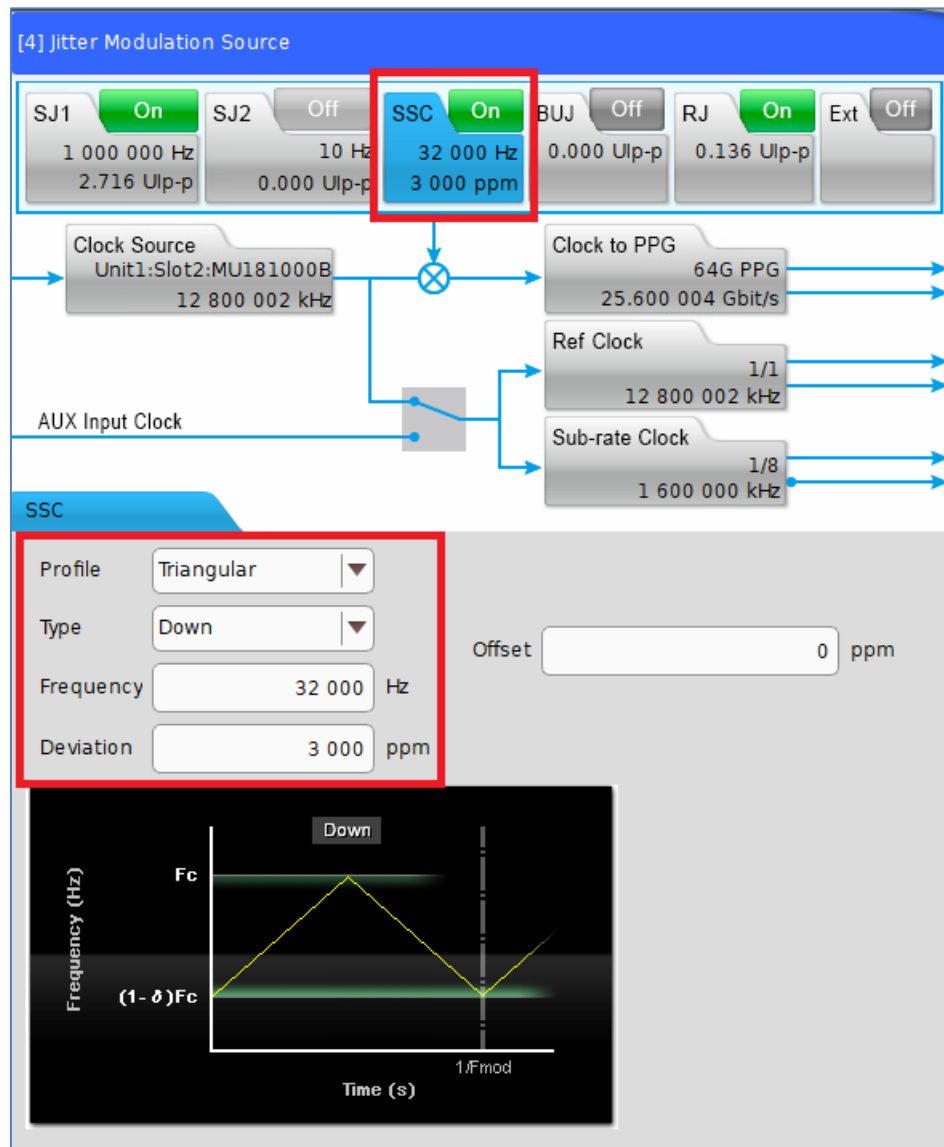

FIGURE 65. SSC SETTING FOR TEST CASE 2
- xii. Turn on “SSC”, with settings of 32kHz with 3000ppm triangle down spread. (SSC will remain on for all of the following steps.) See Figure 65.